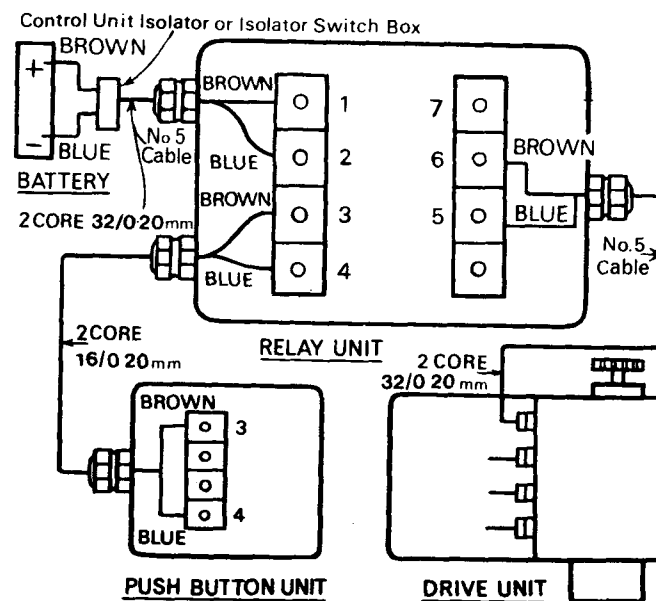

FIG.11 CONNECTIONS FOR CRASH SWITCH MK.2.
- 3.11 **'CRASH' SWITCH** (if fitted) Disconnect the battery, cut the 2-core 1.0mm² 32/0.20mm cable No. 5 cable at the chosen position and connect the section of cable from the Control Unit Isolator into terminals 1 and 2 of the Relay Unit, connect the section of cable from the Drive Unit into terminals 5 and 6, and using a length of 0.5mm² 16/0.20mm link terminals 3 and 4 on the Relay Unit to terminals 3 and 4 on the Push Button Unit. Figure 11.